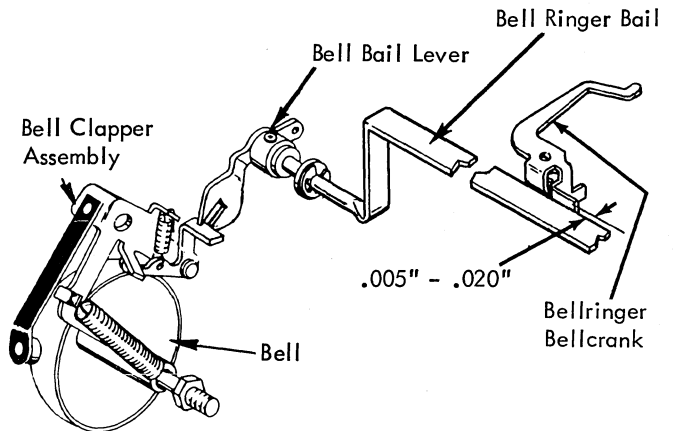

FIGURE 181. Bell Bail Lever (Late Style)
- b. Late - With the carrier positioned away from the right margin stop, adjust the bell bail lever located on the left end of the bellringer bail so that when the bottom portion of the lever is allowed to contact the underside of the bell clapper bellcrank lever a clearance of $.005''$ to $.020''$ will exist between the bellringer bail and the bellringer bellcrank (Fig. 181).